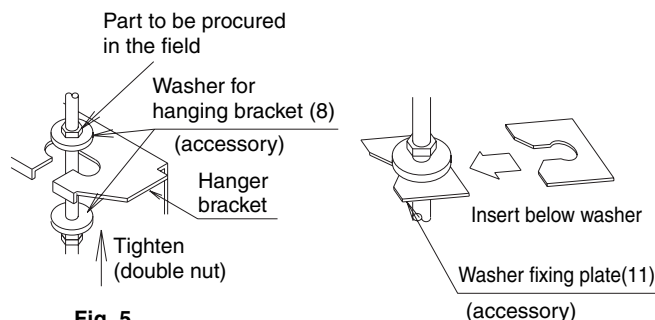

Fig. 5
- Attach the hanger bracket to the suspension bolt. Be sure to fix it securely by using a nut and washer from the upper and lower sides of the hanger bracket. (Refer to Fig. 5)